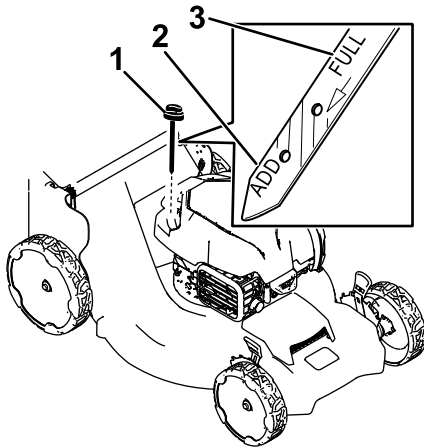

Figure 22
3. Remove the dipstick by rotating the cap counterclockwise and pulling it out (Figure 22).